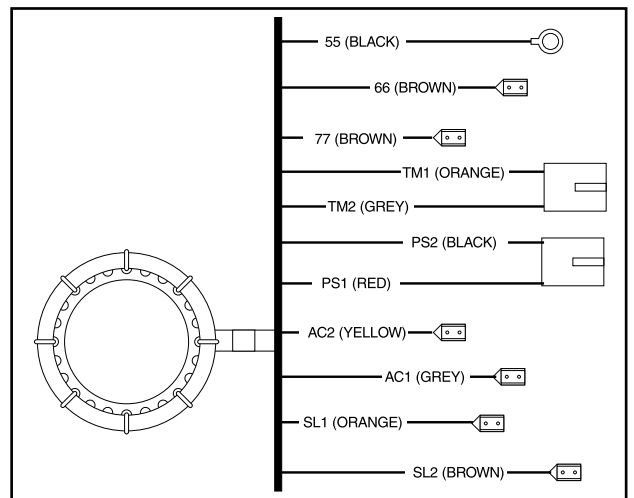
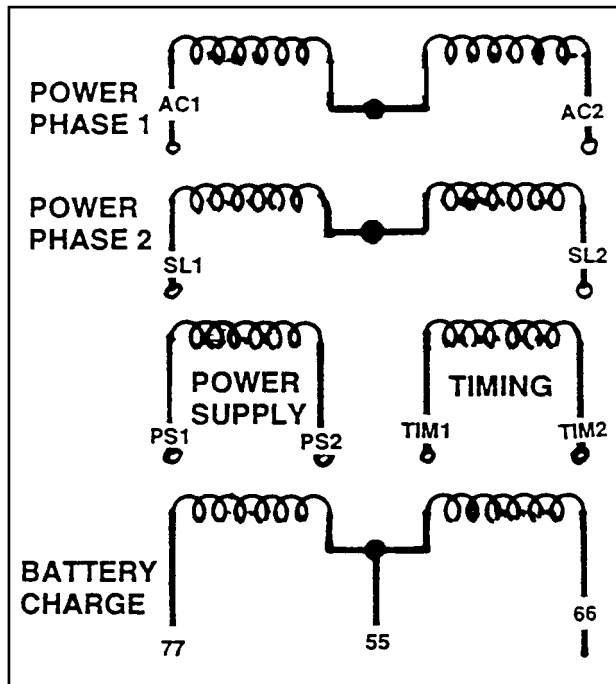

Figure 2. Stator Leads
Figure 3. Schematic- Stator Windings
Figure 2 on the previous page shows the Stator leads that are brought out of the Stator. Figure 3 is a schematic representation of the eight (8) Stator windings. To test for shorts between windings, proceed as follows: